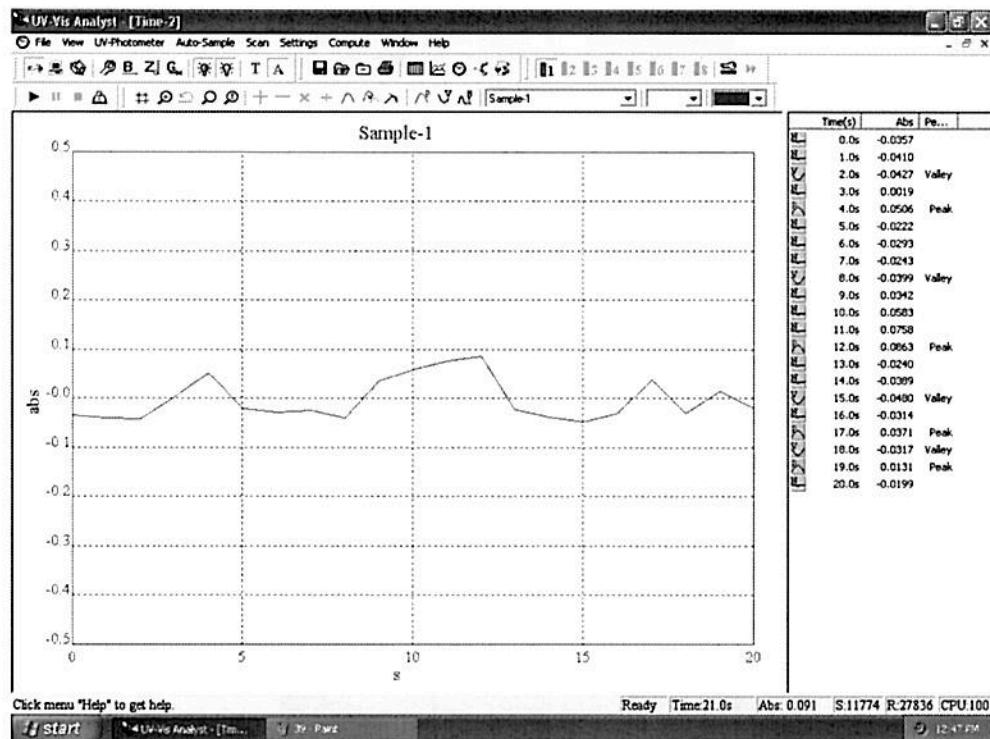

Fig. 4-40
- Place a sample in the sample holder. Click  on the toolbar. The instrument will start scanning automatically. The graph will be displayed on the screen during time scanning (Fig. 4-40). You can stop scanning by clicking .